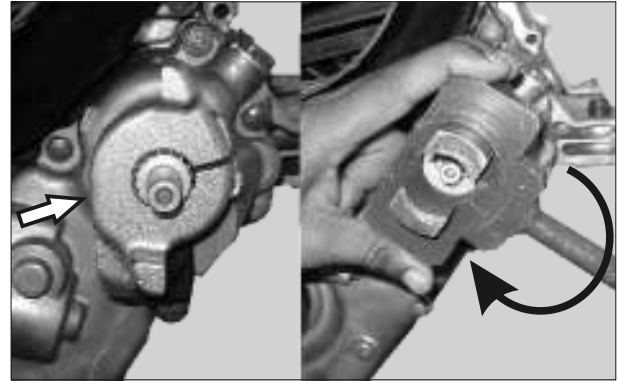

Fig. 3.71
- Hold the dog driven using special tool and rotate a little bit in clock wise direction then tap gently, allow the dog to rotate in anti-clockwise direction and take out the dog from shaft hand starter. (Fig. 3.71).